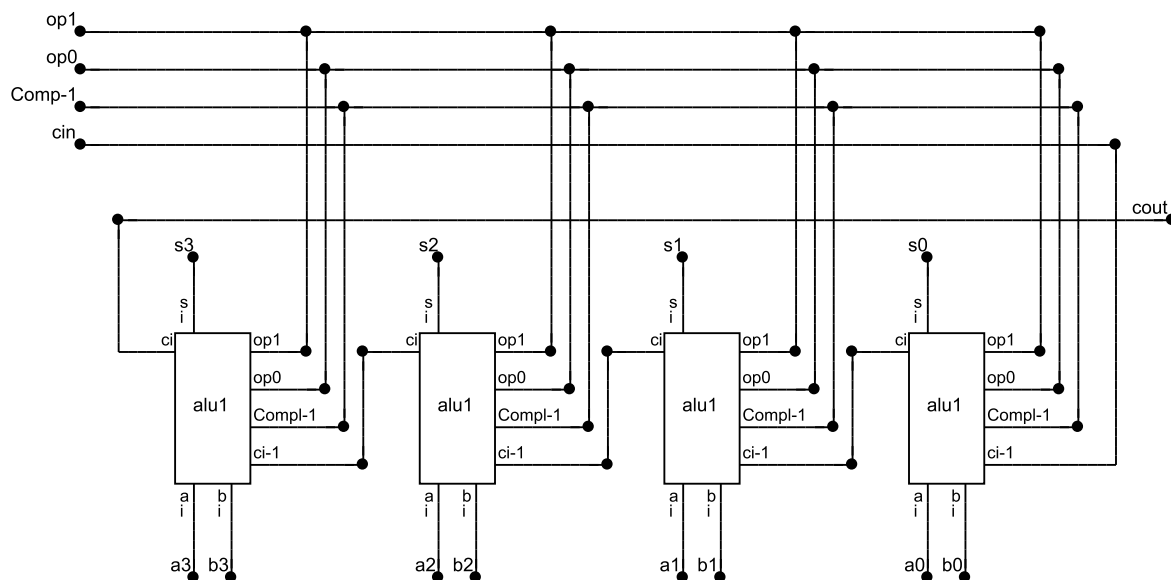

Figure 2.3: Internal scheme of the 4-bit ALU without flags
- ❑ Build the 4-bit ALU without flags. You can use figure 2.3 as a design guide in order to place and connect the macros. If SECD shows an error when trying to connect two distant points, the best solution is to add intermediate points to facilitate the software solving the routing problem for the wires.